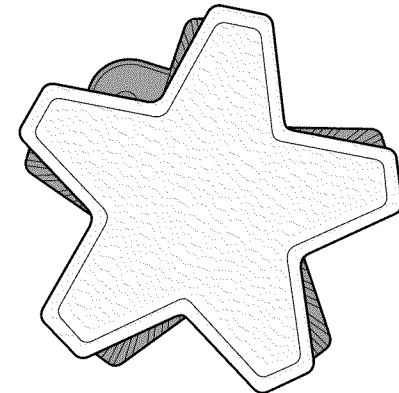

Figure 16: Incorrect Burner Cap Placement
- Check each burner to make sure there is no gap between the burner cap and burner base. See *Figure 15 and Figure 16: Correct and Incorrect Burner Cap Placement* to see examples of correct and incorrect placements of the burner cap.